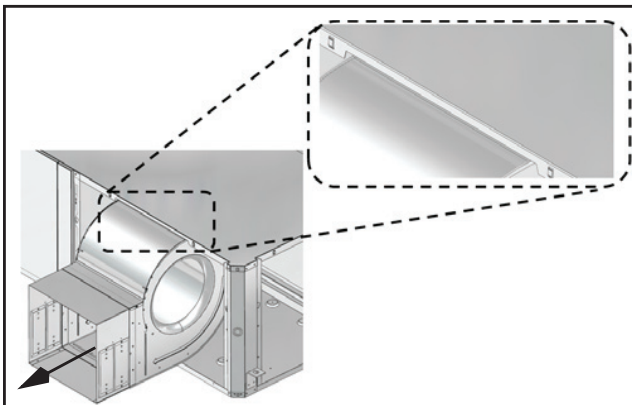

Fig. 34 - Blower Assembly Removal
8. Remove the blower assembly by sliding it forward. See Fig. 34.